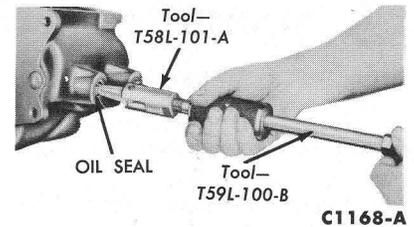

FIG. 5—Cam and Shaft Oil Seal Removal
12. If required, the shift lever oil seals may be removed with the tools shown in Fig. 5.